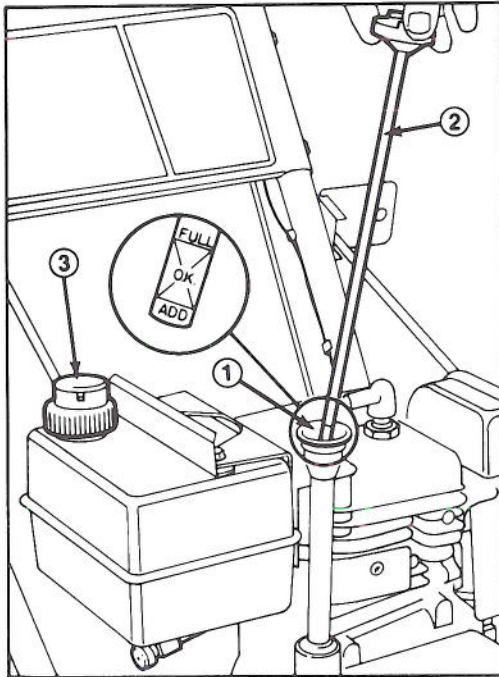

Figure 12
3. Remove dipstick from crankcase (Fig. 12).
4. Slowly, pour 21 ounces (0.621 l) of SAE 5W30 or SAE 10 oil into the filler hole (Fig. 12). The engine uses only high-quality detergent oil having the American Petroleum Institute —API— "service classification" SC, SD or SE.
1. Clean area around the fuel tank cap. Remove cap from fuel tank and fill tank to within 1/2 inch (13 mm) from the top with gasoline. Reinstall fuel tank cap (Fig. 12).